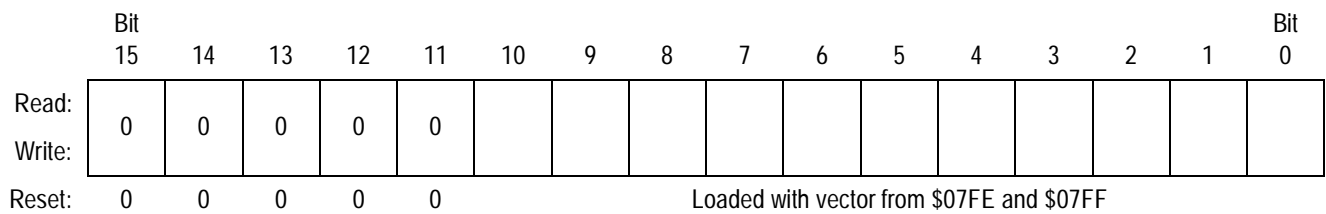

Figure 3-5. Program Counter (PC)
The program counter (PC) shown in **Figure 3-5** is a 16-bit register that contains the address of the next instruction or operand to be fetched. The five most significant bits of the program counter are ignored internally and appear as 00000.